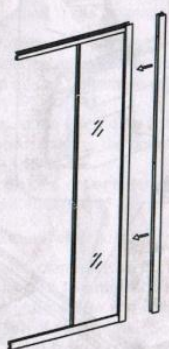

fig 7
6. Push the **wall profile (2)** all the way over the glass profile. (See Fig 7)